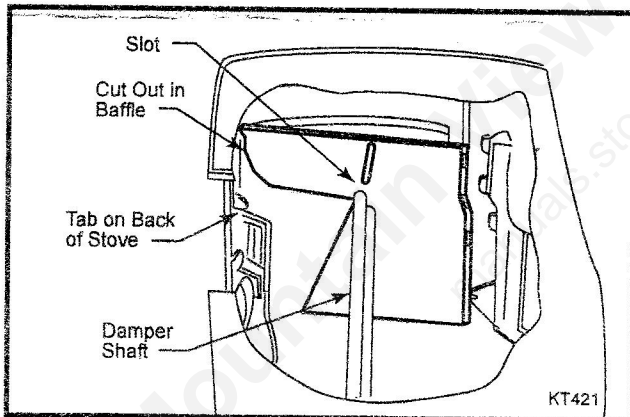

Fig. 2 Position baffle in stove.
3. Position the baffle in the stove with the front edge seated in the vertical groove (formed by a ridge and three tabs) just to the right of the door opening, and the rear edge against the side of the stove (Fig. 2)